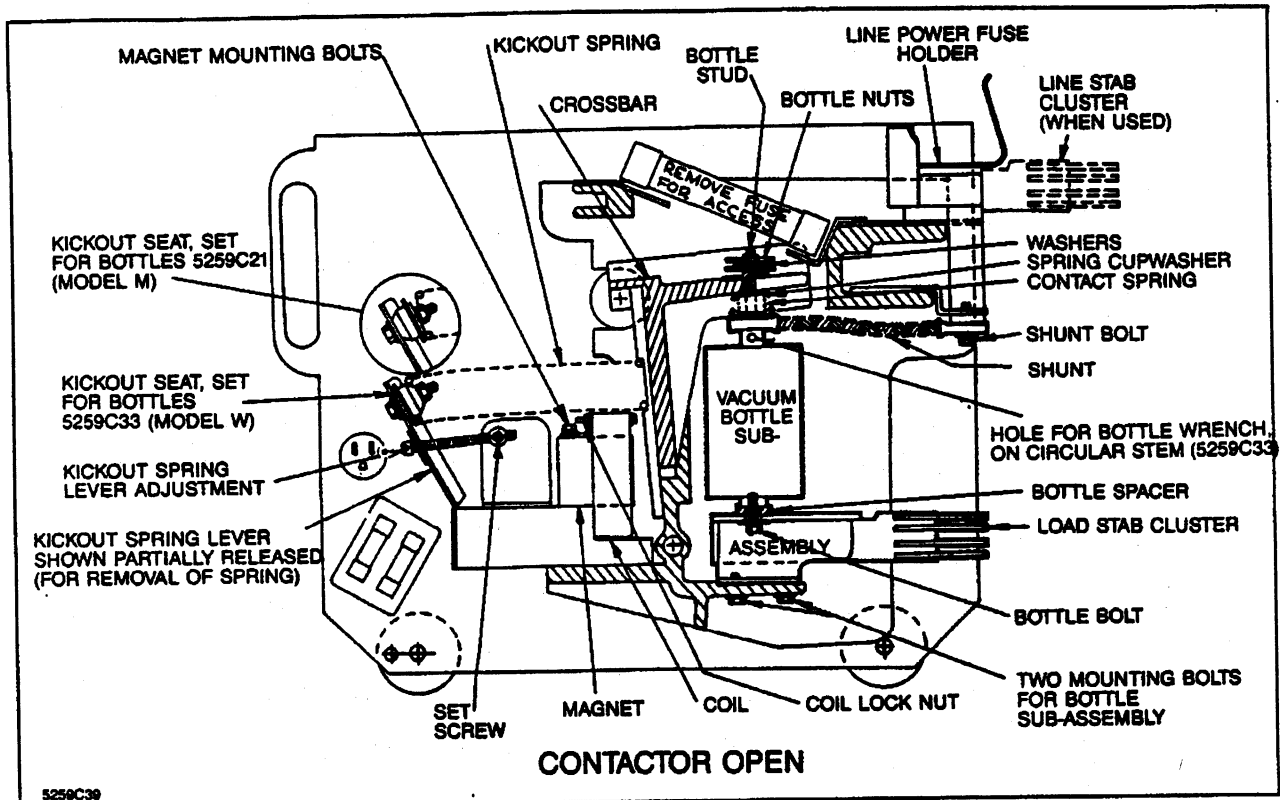

Fig. 3 Type SJA Contactor
5. Remove the two  $\frac{5}{16}$ " bolts attaching each bottle subassembly. See Figure 3 or 4. Set bolts aside.
6. Withdraw the bottle subassemblies from the contactor chassis, pulling the bottom end out first so that the top stud clears the rear frame of the chassis. The contact springs are loose at this point and should be captured and stored before they are lost. The bottle subassembly is the heavy outline shown in Figures 3 and 4.
- f. Align the bottle on the bottle mounting (the bottle bolt is loose) until the stud does not rub or touch the slot in the crossbar. Tighten the bottle bolt. See Figure 3 or 4. Check alignment again to make sure it was maintained while tightening.
The previous instruction applies if the replacement bottles have the same part number as the original bottles. (All bottles on any one contactor must have same identification.) If the replacement bottles are different from the original, the kickout spring seat may have to be reversed. Refer to Figure 3 or 4.